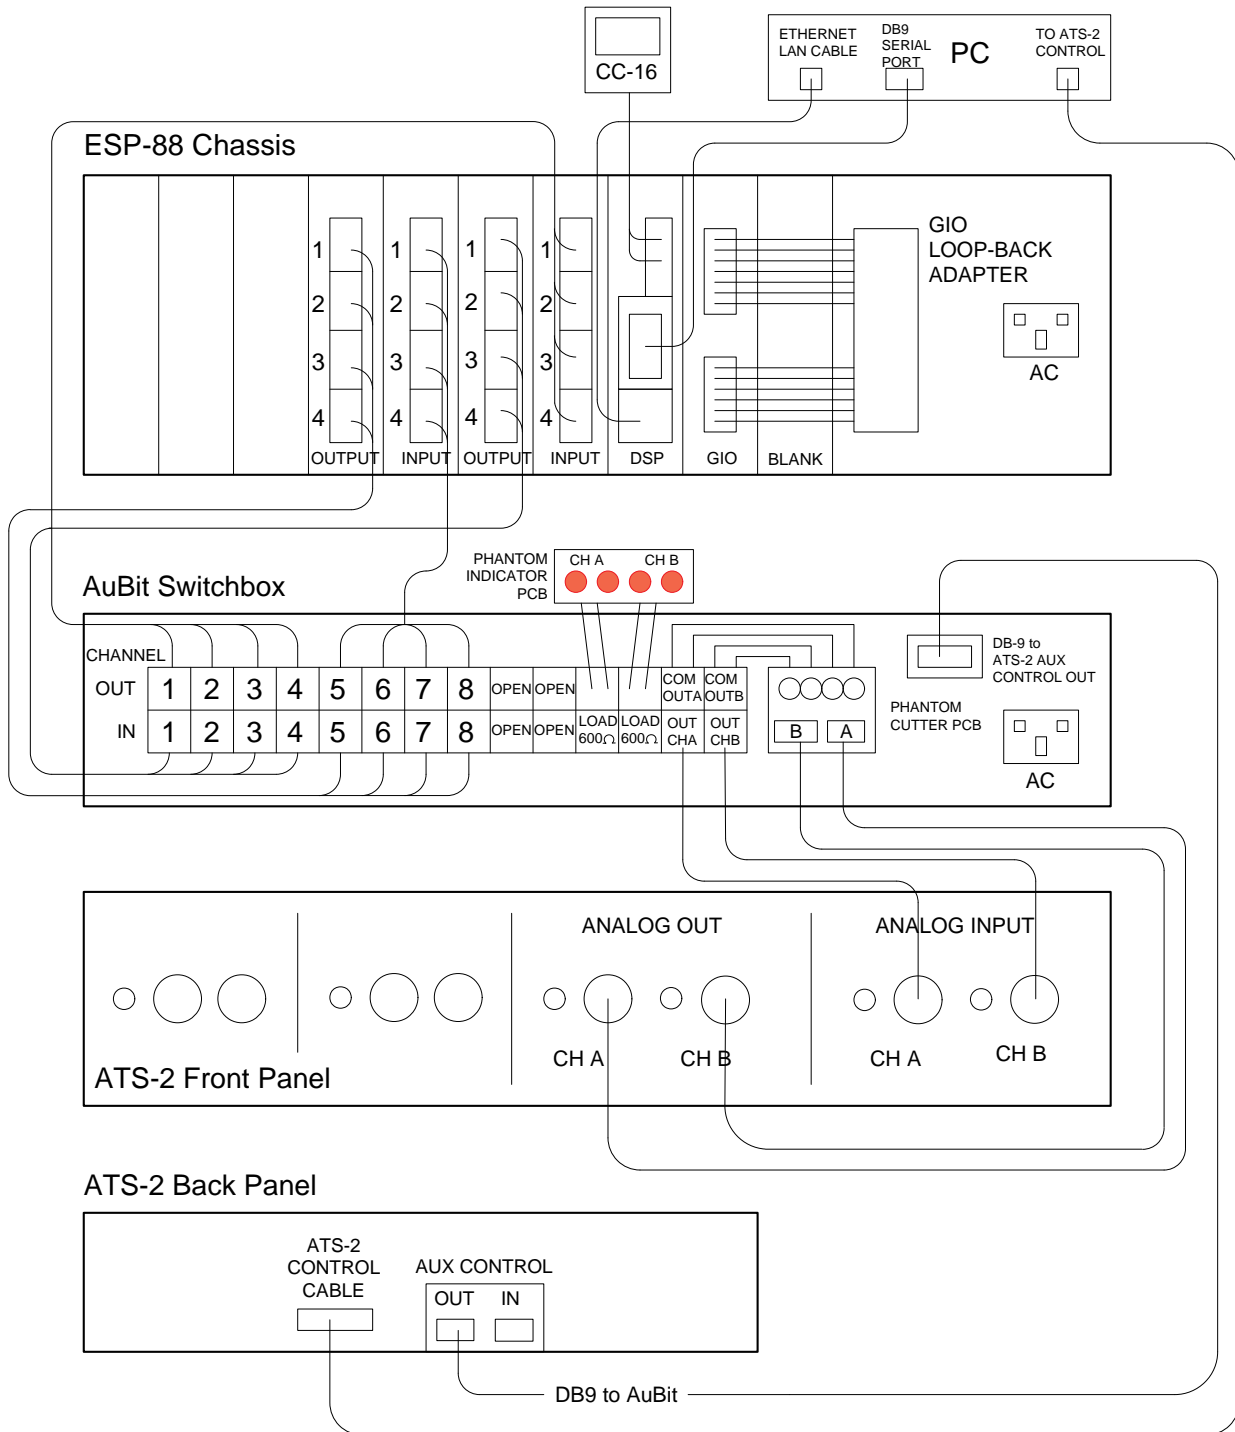

Figure 7. ATS-2, ESP-88C/ESP-00 and AuBit Switchbox Test Setup Diagram
2. Connect the chassis under test to the AuBit switcher and the ATS-2 test station as shown in Figure 7.